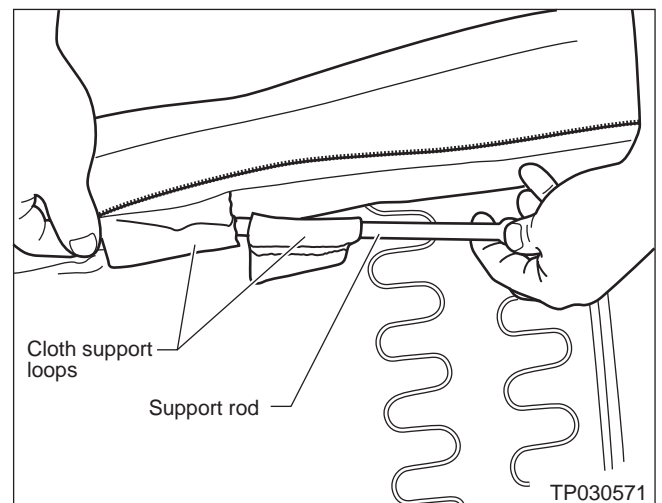

Figure 6
8. Slide the support rod out of the cloth support loops (see Figure 6).